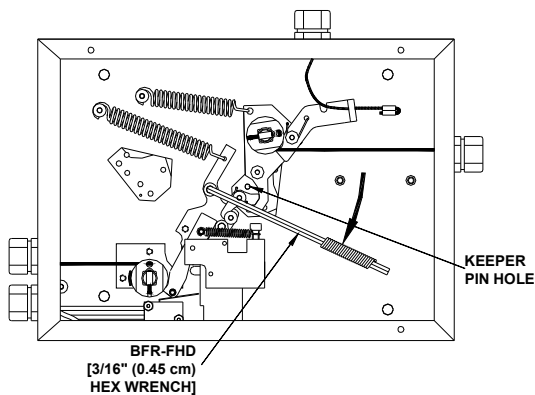

Figure B-9.
2. The Keeper Pin hole is located above Catch. Once the keeper pin has been located, insert the BFR-FHD (or 3/8" Drive ratchet and 3/16" Hex bit) into Detection Arm and rotate to the right so that the detection Arm comes in connect with mounting block. See **Figure B-9**.